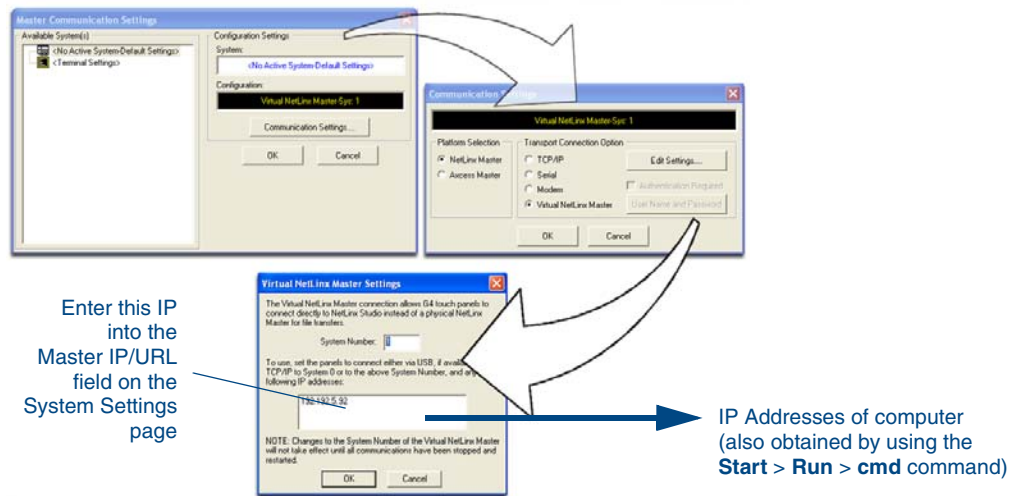

FIG. 40 Assigning Communication Settings and TCP/IP Settings for a Virtual Master
3. Select **Settings > Master Communication Settings**, from the Main menu to open the Master Communication Settings dialog (FIG. 40).
7. Click the **Edit Settings** button (on the Communications Settings dialog) to open the Virtual NetLinx Master Settings dialog (FIG. 40).